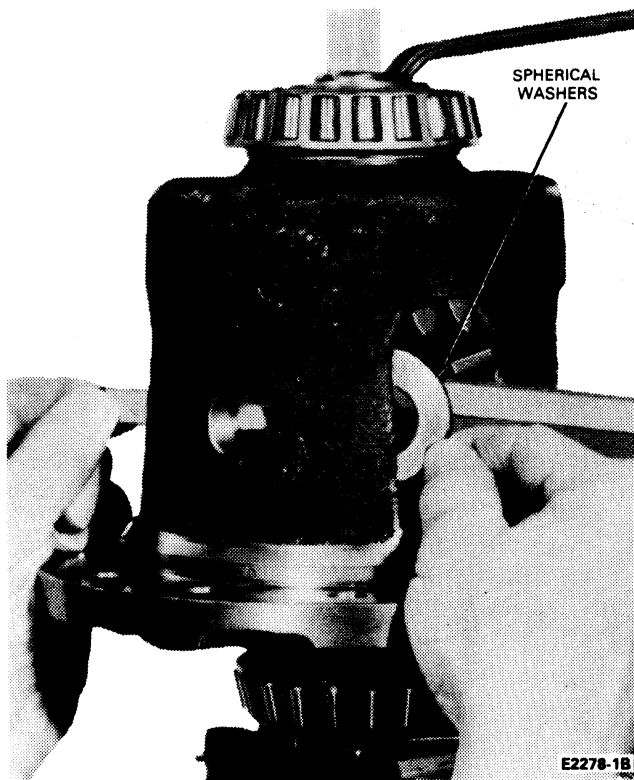

FIG. 9 Removing Spherical Washers
6. Tighten the forcing screw tightly. This will move the side gears away from the differential pinion gears, and relieve the normal loaded condition. Using a piece of 0.762mm (0.030 inch) thick shim or gauge stock, push out the differential spherical washers (Fig. 9).